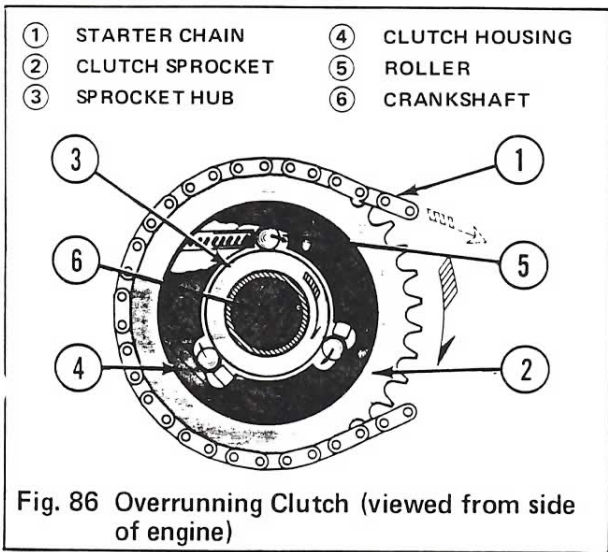

Fig. 86 Overrunning Clutch (viewed from side of engine)
Fig. 86 and 87 show cross sectional views of an overrunning clutch. The particular type illustrated is installed on the engine crankshaft and is chain driven, like the starter clutch used in Honda CB-360 and CB-500T motorcycles.
The starter motor drives the chain (1) and its sprocket (2) in the direction shown in Fig. 86 (some Honda models use a gear rather than a chain and sprocket). The clutch housing (4) is attached to the engine crankshaft (6) (some Honda models mount the clutch housing on a transmission shaft). Starter engagement is achieved by locking the sprocket to the clutch housing, and disengagement is achieved by unlocking these parts. Spring loaded rollers (5) in the clutch housing perform this locking/unlocking function.